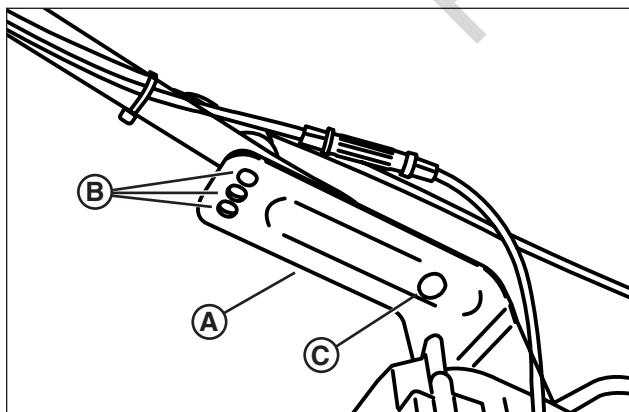

Figure 8: Adjusting the handle height
1. Remove the handle knobs, washers and carriage bolts from the lower handle (**A**, Figure 8).